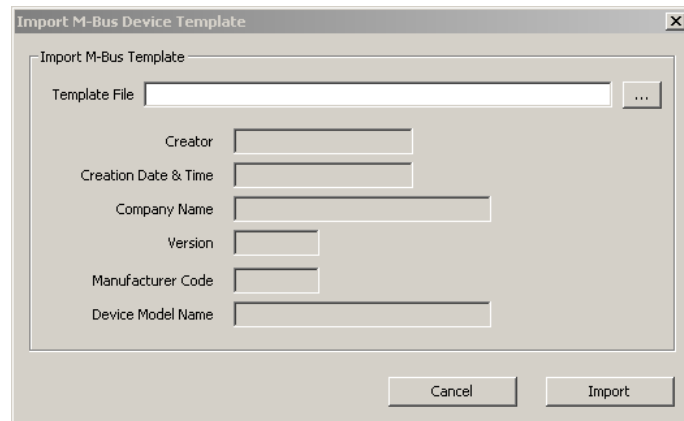

Figure 137: Import M-Bus Device dialog.
3. Click on the **Create From Template** button. This opens the **Import M-Bus Device Template** dialog shown in Figure 137.